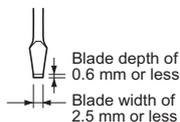

Figure 2 Required Screwdriver Dimensions
- Straight-edge screwdriver (refer to Figure 2)